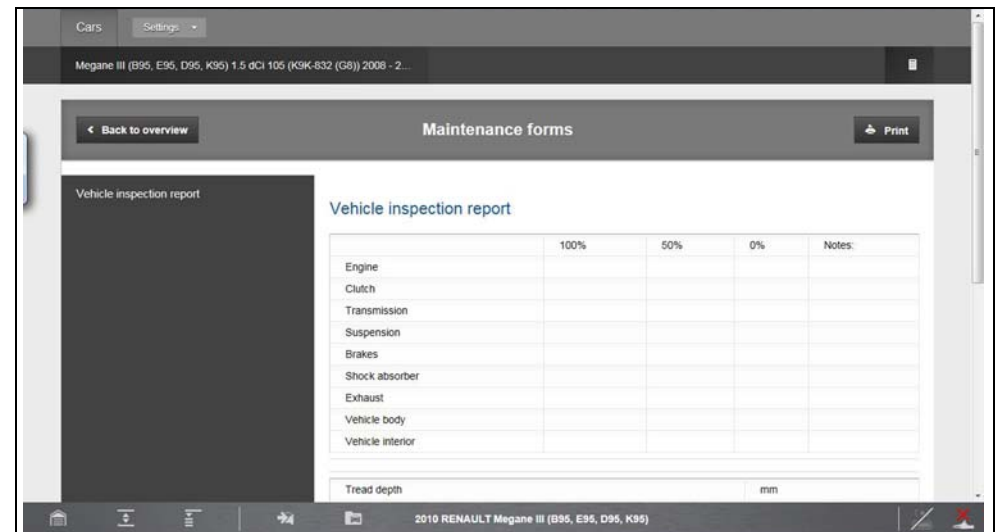

Figure 9-17
- **Maintenance Forms** - (Figure 9-17) Printable forms for common inspection reports.